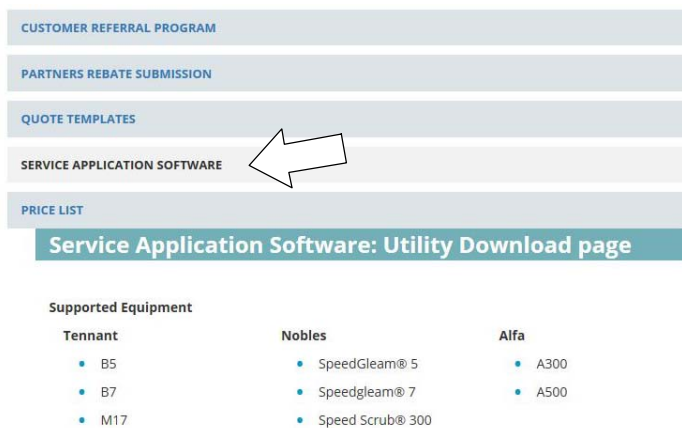

Fig. 13
3. Click on the “SERVICE APPLICATION SOFTWARE” link as shown below (Figure 13).